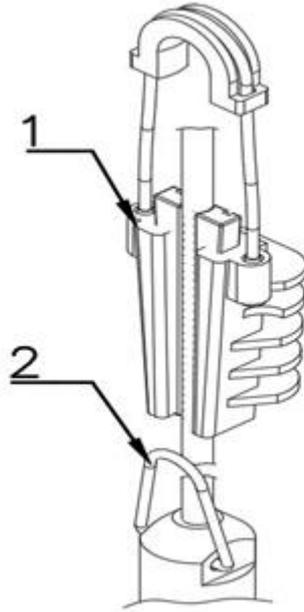

Figure 1 Mounting brackets for probes
The probe can be hung on the power cable, e.g. by using from the Aplisens SG cable hanger (item 1 in fig. 1). In the event of frequent removal of the probe or when there is a risk of catching on protruding elements during pulling up, it is recommended to hang the probe on a steel cord using the carrying eye (item 2 in Fig. 1.). The probes are immersed in the medium to be measured. A special cable extends above the level of the medium and can be connected directly to probe or to a junction box. If the probe is to be placed in the current or in an area of turbulence, it should be installed in a protective tube.